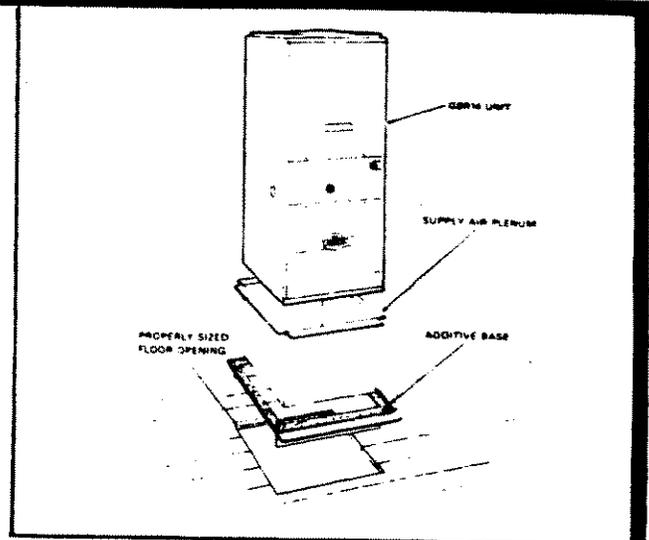

FIGURE 4
- 5 - Set unit on additive base so unit flanges drop into plenum. Refer to figure 4.